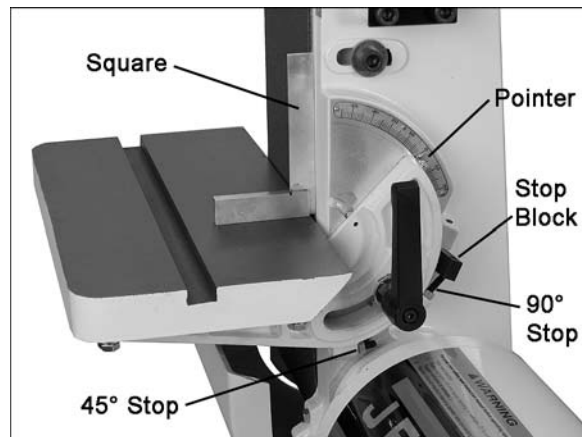

Figure 19
2. Place a square on the table and up against the platen or abrasive belt, as shown in Figure 19.
6. With the table locked at 90°, loosen the hex nut on the 90° stop, and adjust the set screw to seat against the stop block. See Figure 19. Re-tighten hex nut to secure the setting.
8. Flip the stop block out of the way, and tilt the table down to 45°. Verify the setting of the 45° angle stop (Figure 19). Use the same procedure as above but with a 45° measuring device on the table. Correct the stop as needed.